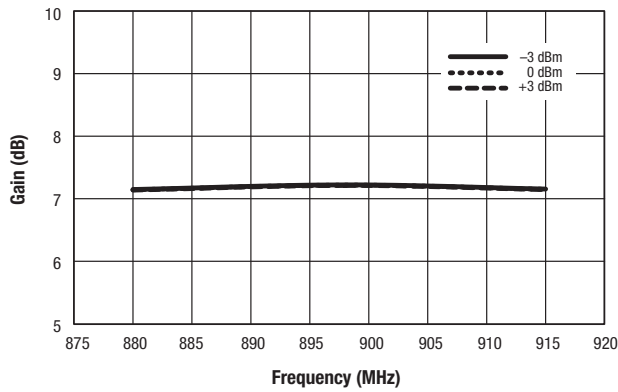

Figure 3. Mixer A Gain vs Frequency and LO Power
Typical performance characteristics of the SKY73020-11 are illustrated in Figures 3 through 40.
- Components L5, L6, L14, and L15 (see Figure 3) are high-Q, low-loss inductors. These inductors must be able to pass currents in excess of 200 mA DC.
- Components R1 and R2 (see Figure 3) allow for external adjustment of the IF amplifier bias points. For operation as specified in Tables 3 and 4, these resistors are not required.